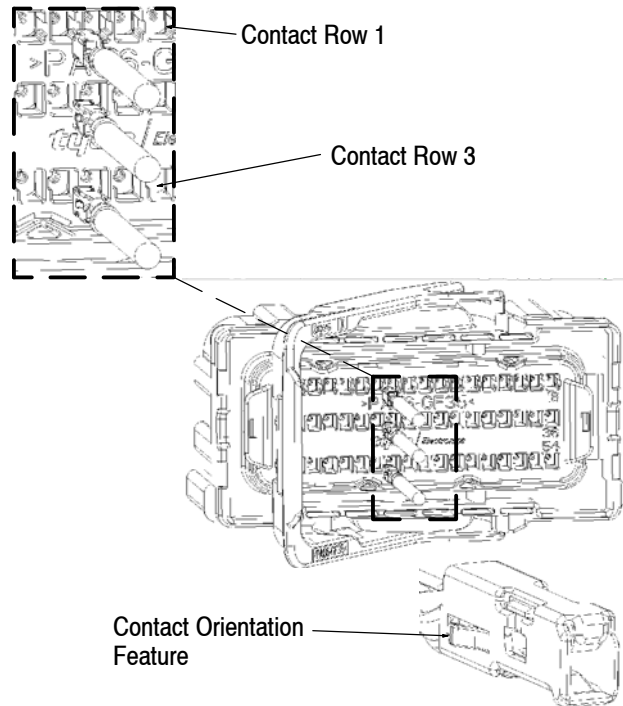

Figure 3
Contact orientation for circuit rows 2 and 3 are in the opposite orientation to contact row 1. See Figure 3.
2. If the wire should “buckle” prior to full insertion, pull the contact back out of the plug housing. Verify that orientation complies with Figure 3 and reinsert contact.
If the seal plug should stub or is difficult to insert, pull the seal plug back out and verify that the orientation complies with Figure 3, then reinsert seal plug.